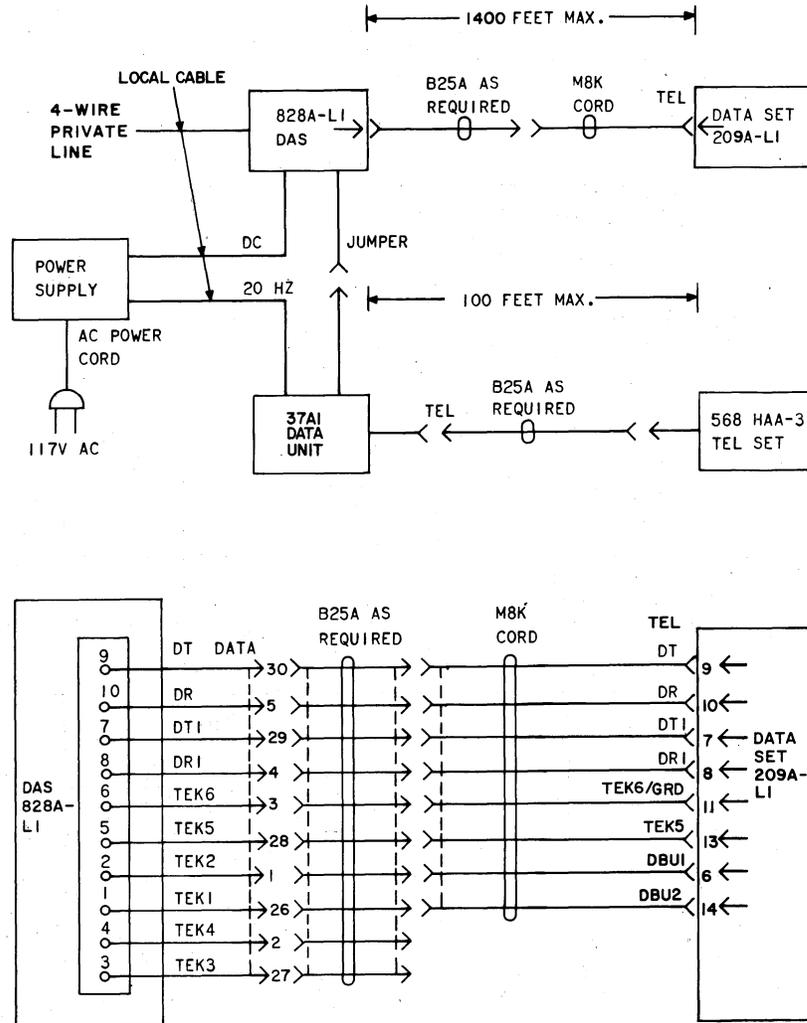

Fig. 8—Block and Connection Diagram for Data Set 209A-11 Using DAS 828A-11—Data/Voice
**3.03** Refer to Fig. 7 and 8 for connections between DS 209A-L1 and DAS 828A-type. The data-only connection is shown in Fig. 7 and the data/voice connection is shown in Fig. 8. For further information pertaining to DAS 828A-type, refer to Sections 598-080-100 and 598-080-101.